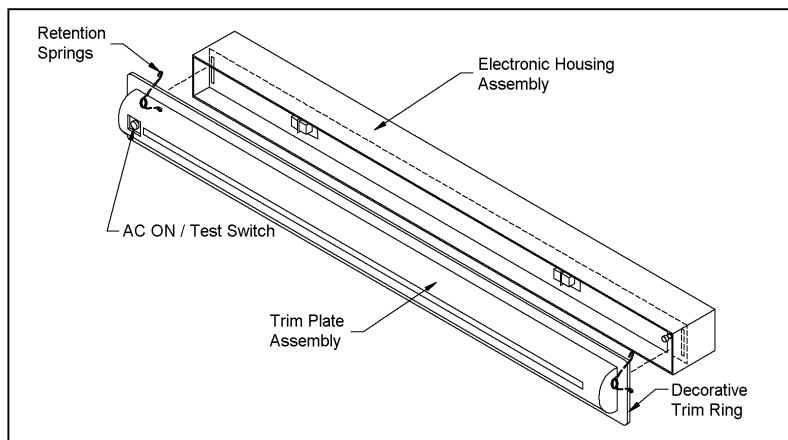

FIGURE 3
3. Compress the retention springs and insert the trimplate assembly. See Figure 3.